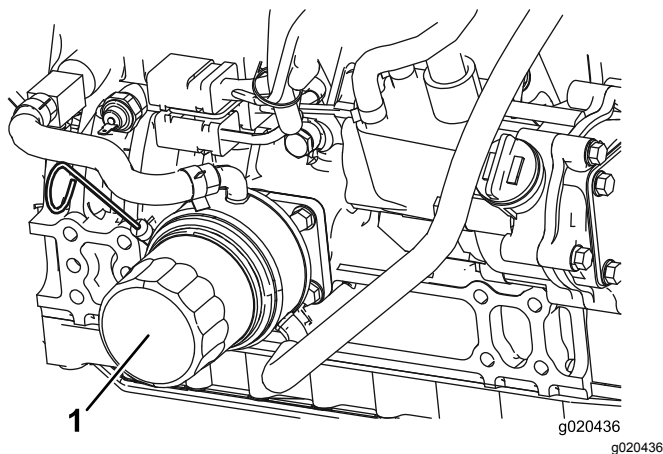

Figure 55
2. Remove the oil filter (Figure 55).